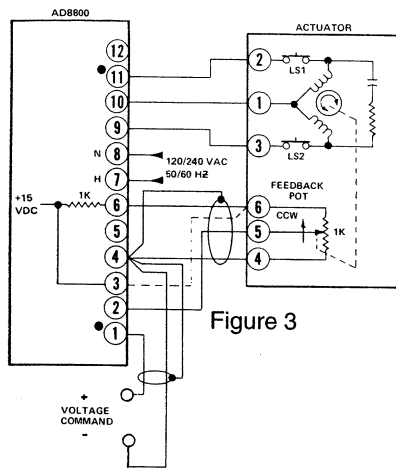

Figure 3
- If the command is a voltage (Fig. 3), connect directly to terminals 1 and 4.
If the command signal is less than 0 to 10 V dc, it may not be possible to obtain 100% SPAN on an actuator with a 0 to +15 V dc pot. feedback. Under these conditions the span ranges may be doubled by connecting the feedback pot. between terminals 4 and 6 as shown in Fig. 3. A 0 to +5 V dc command would then allow a span range identical to that obtained with a 0 to 10 V dc command and a 0 to +15 V dc pot. feedback.